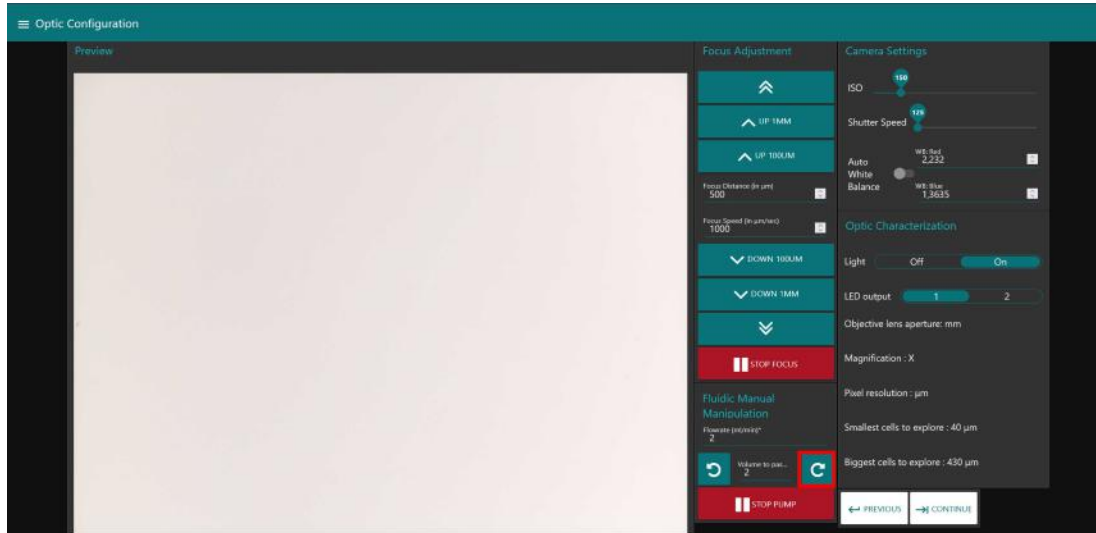

Figure 5: The red square highlights the location of the clockwise arrow that will rotate your peristaltic pump
- Under "Fluidic Manual Manipulation" (Fig.5), **click clockwise arrow** to check that the peristaltic pump is working. You should see the pump rotating in an clockwise direction. You can choose to pass a volume, but keep in mind that **this parameter will not impact the acquisition**. On the other hand, the flowrate parameter will also be effective during an acquisition.